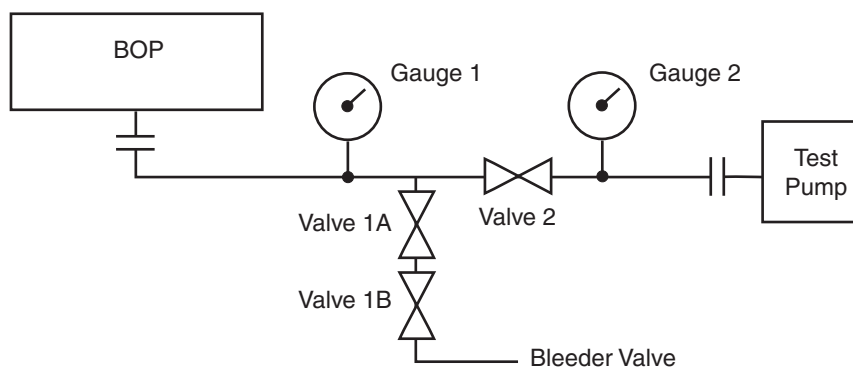

Figure 4-4. Recommended Field Wellbore Pressure Test Equipment Setup
Connect the listed equipment as shown in Figure 4-4.
1. Close valves 1A and 1B. Open valve 2 (see Figure 4-4 on page 4-6).